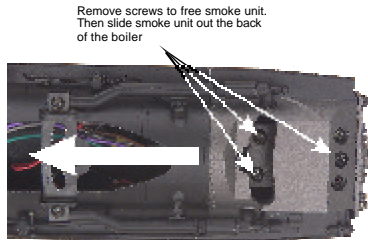

Figure 14
1. To replace the headlight in this model you will need to follow the disassembly instructions for smoke unit maintenance in figure 14 on pg. 19. Once the smoke unit is removed you can access the wires for the headlight (see figure 8).
2. Remove the three screws securing the smoke unit inside the shell as seen in Fig. 14.
3. With the board free of the mounting screws, slide the assembly toward the center of the boiler as seen in Fig. 14.